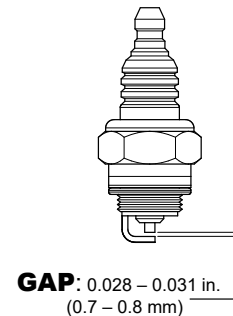

Figure 31. Spark Plug Gap
1. Remove and clean the spark plug (Figure 31), then adjust the spark gap to 0.024~0.028 inch (0.6~0.7 mm). This unit has electronic ignition, which requires no adjustments.